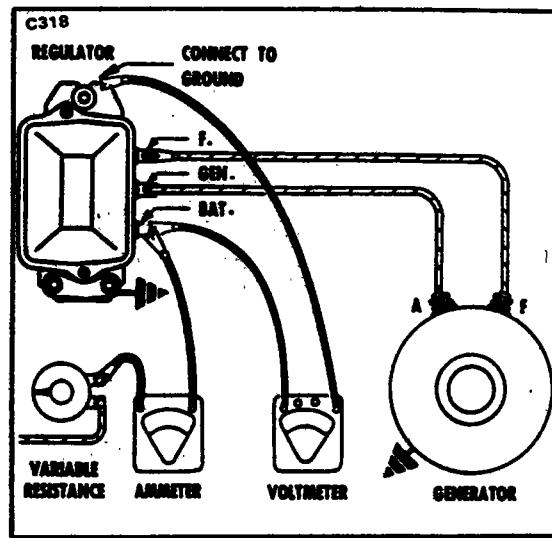

Figure 11-8.. Checking Voltage Setting Variable Resistance Method
- (a) Connect ammeter and 1/4-ohm variable resistor in series with the battery as shown in Figure 11-8.